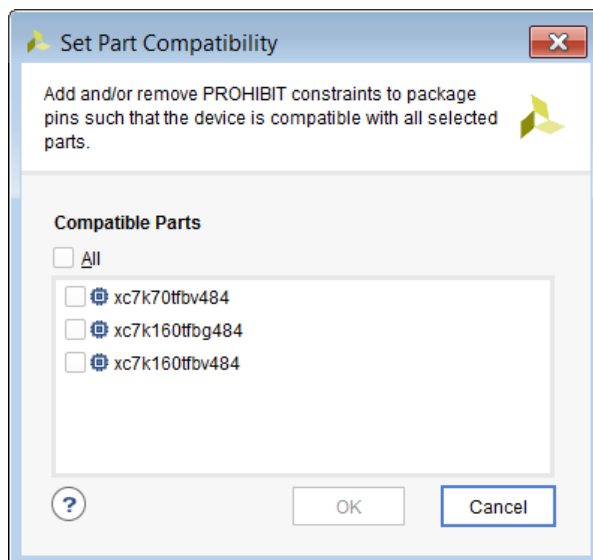

Figure 2-1: Set Part Compatibility Dialog Box
2. In the Set Part Compatibility dialog box (Figure 2-1), select the alternate parts, and click **OK**.